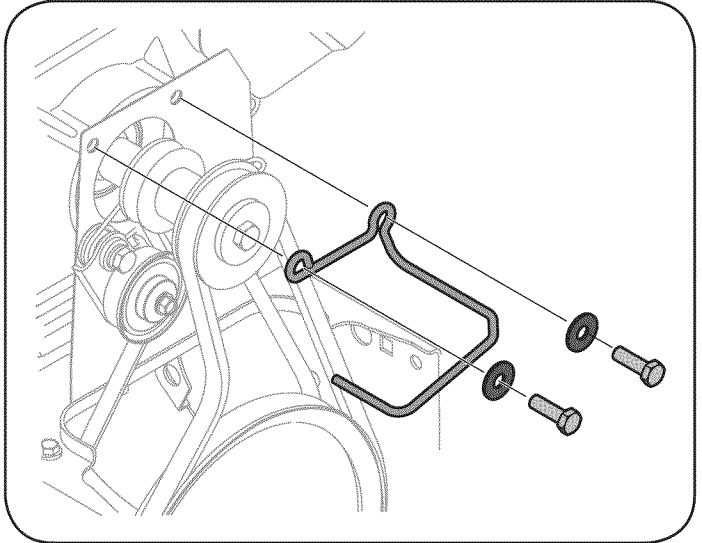

Figure 24
3. Loosen and remove the two bolts and flat washers securing the belt guide. See Figure 24. Remove belt guide.